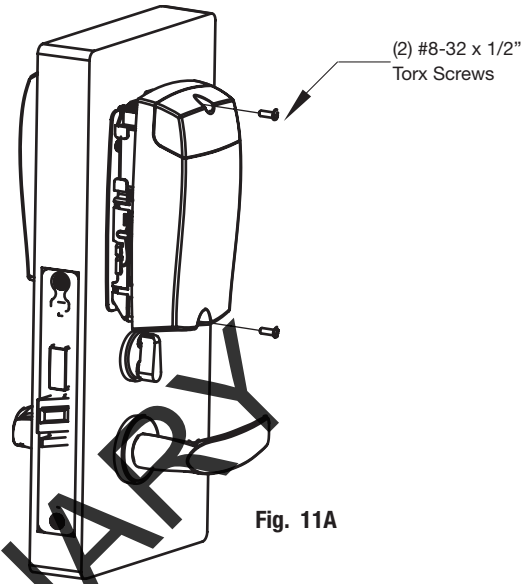

Fig. 11A
1. Position inside escutcheon as shown (Fig. 11A).